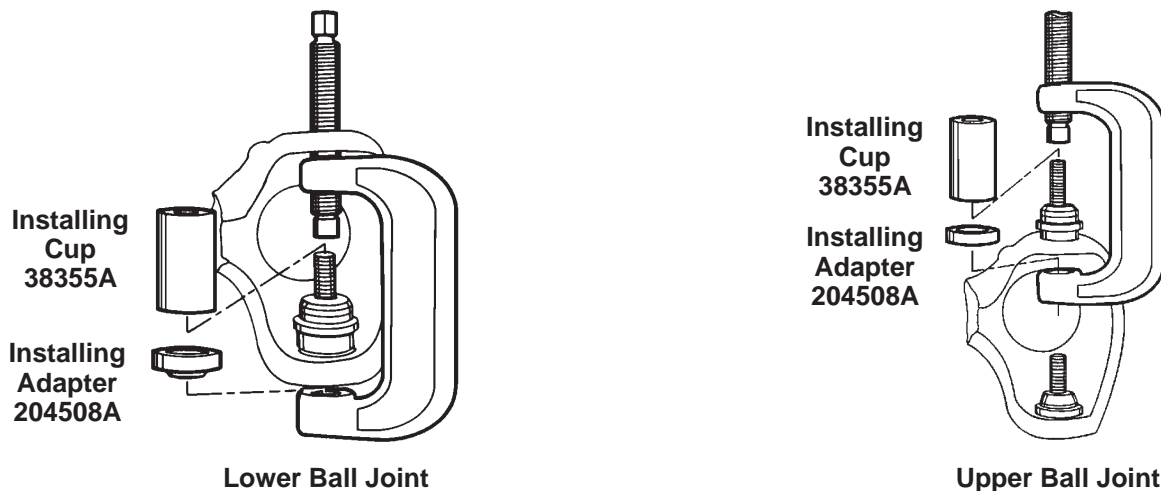

Figure 2
3. Assemble the ball joint press components as shown in Figure 2. Check the alignment of all components. Tighten the forcing screw until the ball joint is firmly seated.